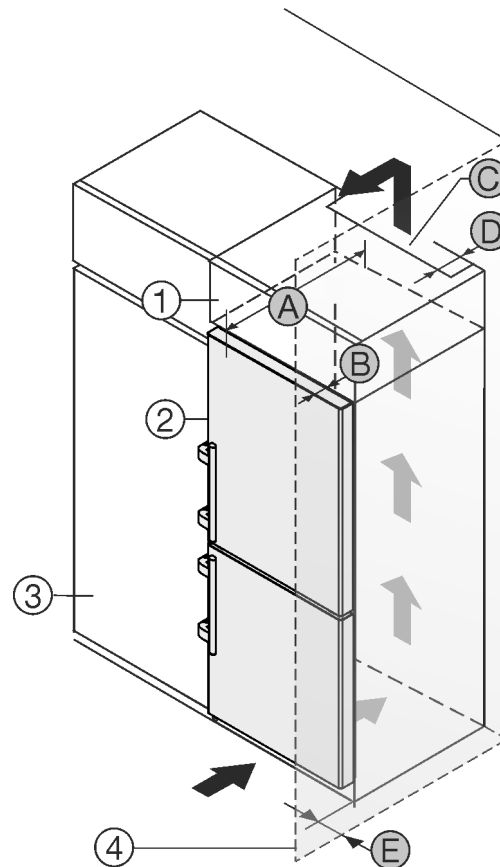

Fig. 2
- (1) Top cabinet*
- (2) Appliance*
- (3) Kitchen cabinet*
- (4) Wall*
- (A) Appliance depth*
- (B) Door depth*
- (C) Ventilation cross-section*
- (D) Distance to the rear of the appliance*
- (E) Distance to the side of the appliance*
Set up the appliance directly next to the kitchen cabinet Fig. 2 (3).*
There must be a ventilation shaft at the depth Fig. 2 (D) of the back of the top cupboard over the entire width of the top cupboard.*
The cross section of the ventilation gap Fig. 2 (C) must be maintained below the ceiling.*
If the appliance is installed with the hinges next to a wall Fig. 2 (4), the distance between the appliance and the wall must be at least 57 mm (2.24 in). This is how far the handle protrudes when the door is open.*
In order to be able to fully open the door, the appliance must protrude by the depth Fig. 2 (B) of the door from the front of the kitchen cabinet. Regardless of the depth of the kitchen cabinets Fig. 2 (3) and use of wall spaces, the appliance can protrude further.*